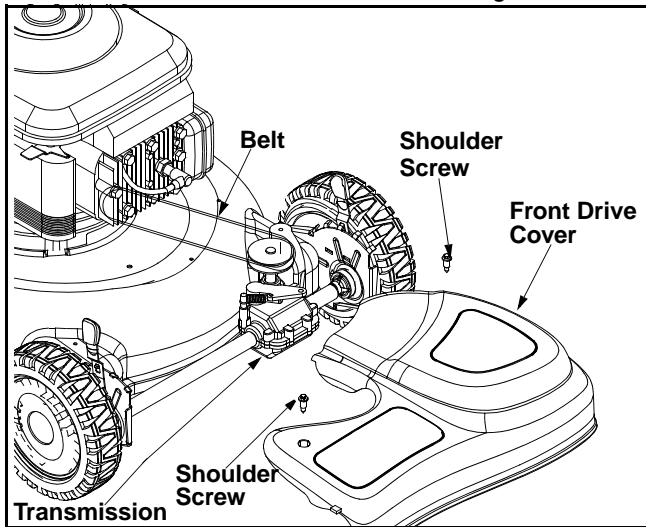

Figure 14
1. Remove two shoulder screws securing the front drive cover to the mower deck. See Figure 14.